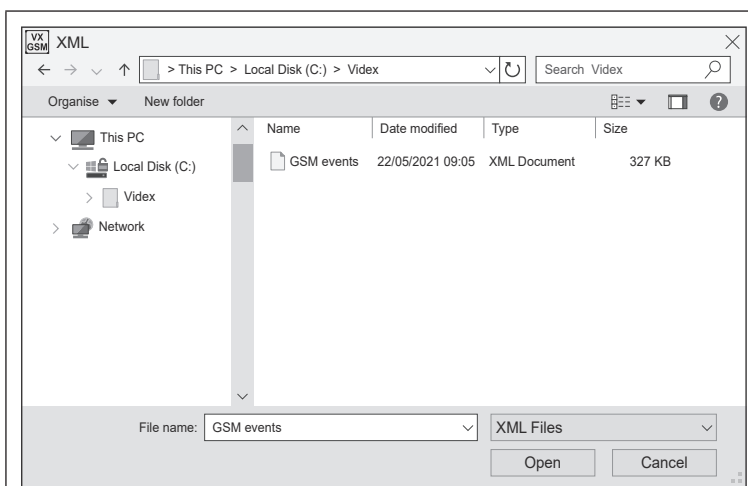

Fig. 71
- The '**XML open**' window will appear, as shown in **Fig.71**, locate the file location of the saved event log (these are saved as XML documents).